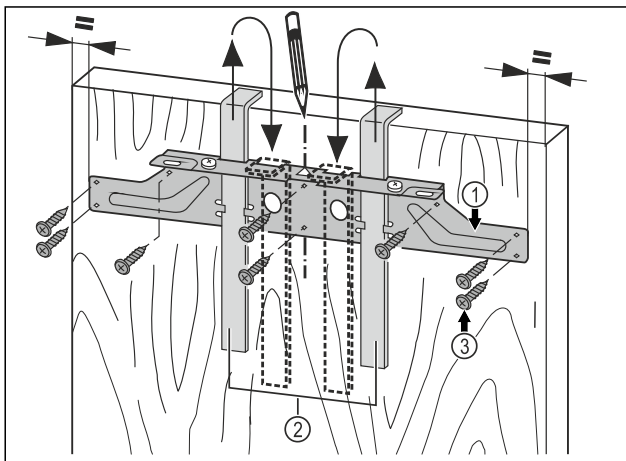

Fig. 19
- Hang the fastening bar Fig. 19 (1) with the mounting aids on the inside of the unit door Fig. 19 (2).
- Align the fastening bar Fig. 19 (1) in the centre of the door.*
- Tighten the mounting bar Fig. 19 (1) with at least 6 screws Fig. 19 (3).
- Screw the mounting bar Fig. 19 (1) to the edge with 4 screws Fig. 19 (3).
- Pull the assembly devices Fig. 19 (2) upwards and push them, at an angle, into the receiving openings.